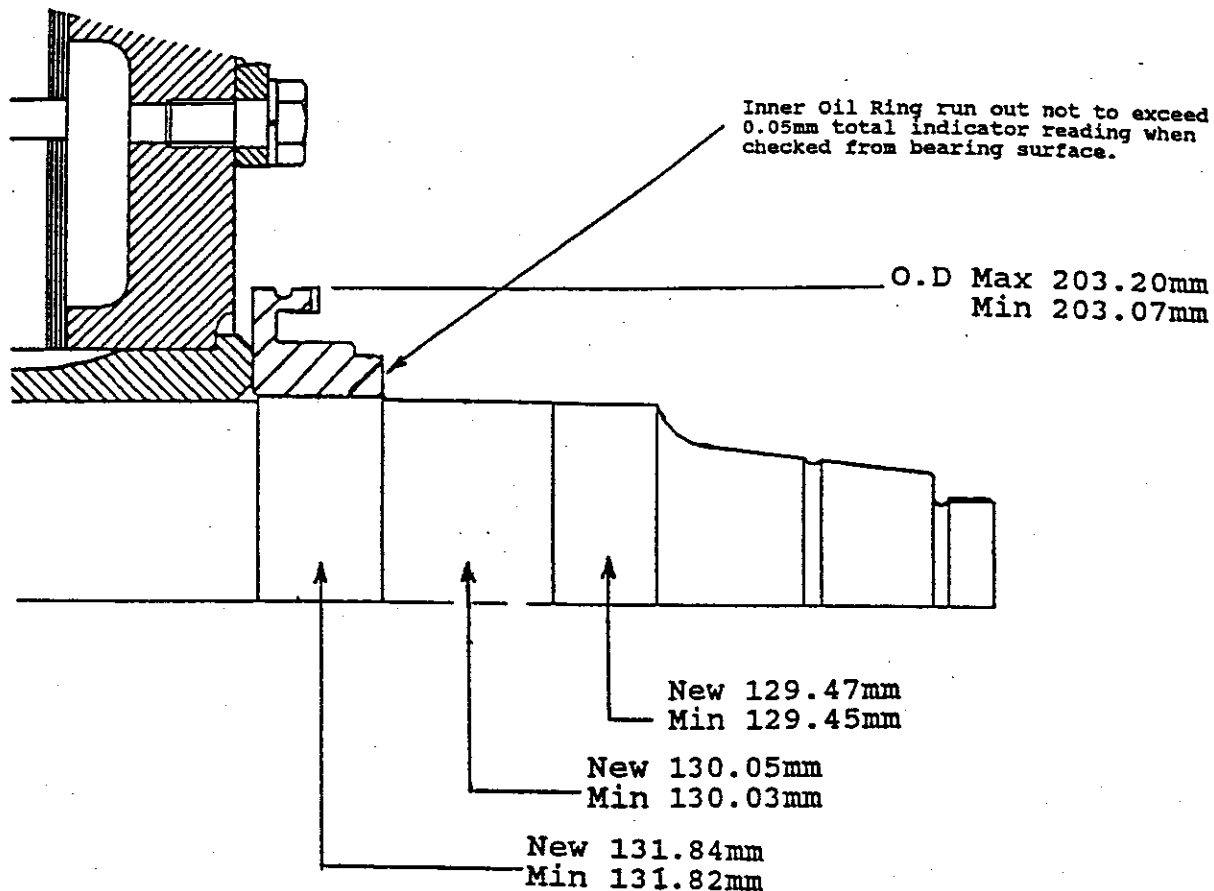

Fig. 5 - Armature Shaft - Pinion End
6. Inspect the threads on the pinion end of the shaft, Fig. 5. If the threads are nicked or slightly damaged, rework threads with armature shaft die. Refer to Service Data for die and die holder part number. Check thread pitch diameter. Acceptable thread pitch diameter is 67.513 mm to 67.915 mm. If threads are severely damaged or beyond thread pitch diameter limits, replace shaft with a new shaft.
7. Inspect pinion end inner oil ring for roughness and wear, Fig. 5. Maximum runout of the oil ring is 0.05 mm total indicator reading.
8. Check pinion end shaft diameters for size as shown in Fig. 5.